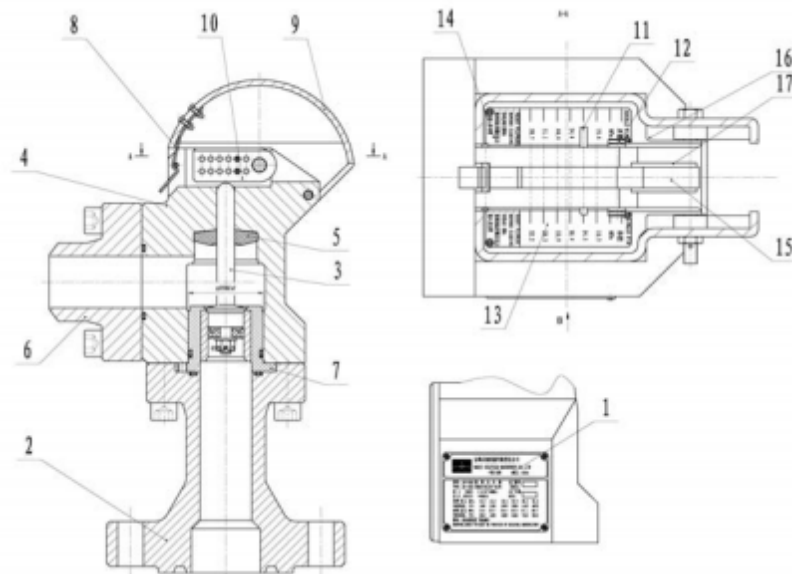

Fig 14 Shear Pin Relief valve
- (1) Nameplate (2) Inlet flange (3) Piston rod (4) Valve body (5) Cushion (6) Outlet flange
(7) Transition sleeve assembly (8) Locking spring (9) Safety cover (10) Shear pin plate
(11) Shear pin (12) Pin (13) Label I (14) Label II (15) Gasket (16) Piston assembly (17) Gasket
The JAF-3×52 flange type shear pin relief valve is shown in Fig. 14. When the pump pressure exceeds the rated value, the acting force on the piston assembly (16) will jack up the shear pin plate (10) to compel the shear pin (11) broken, and the liquid is rapidly emptied.